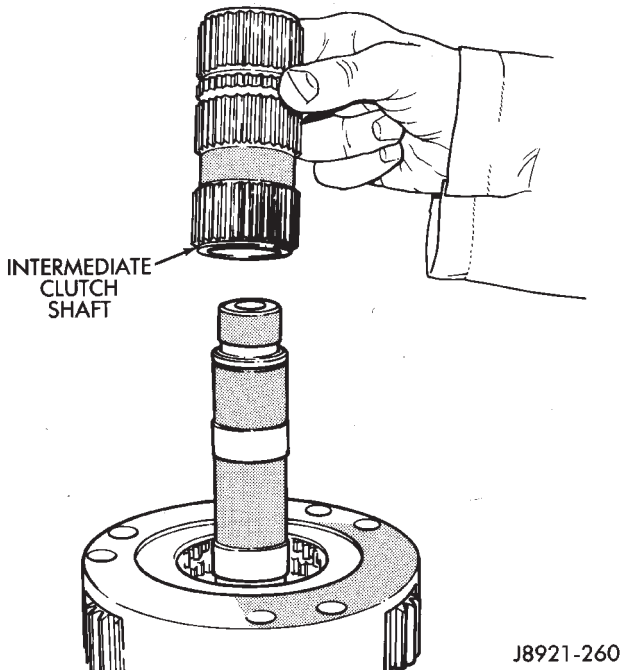

Fig. 20 Intermediate Clutch Shaft Removal
(31) Remove intermediate clutch shaft (Fig. 20).